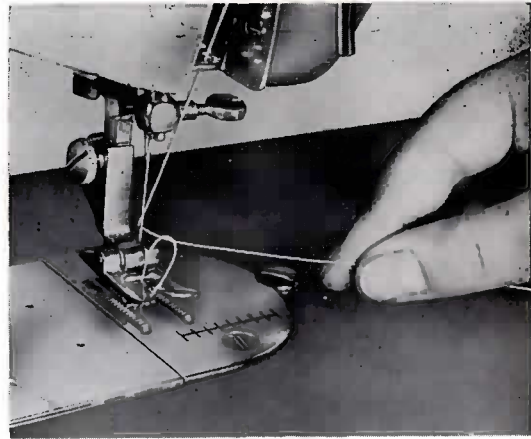

Fig. 13
- 3) Pull the thread you are holding, and lower-thread loop will be brought up with it through the hole in the needle-plate, as shown (Fig. 13).